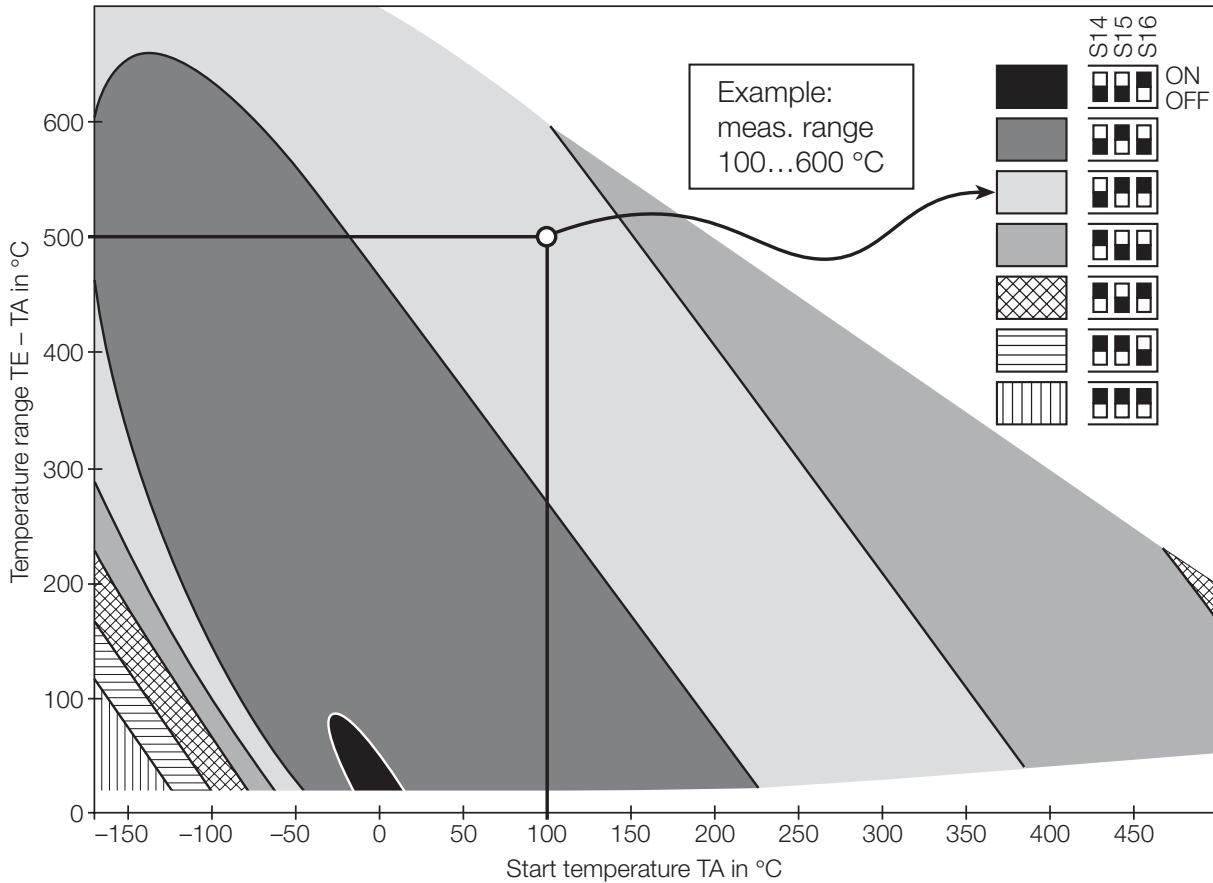

Fig. 7. Switch positions (S14...S16) for linearisation.
A switch combination has to be set to linearise the range that depends on the minimum value of the measuring range (TA) and the temperature range (TE – TA). Fig. 7 shows how the switch positions are determined for the example of a